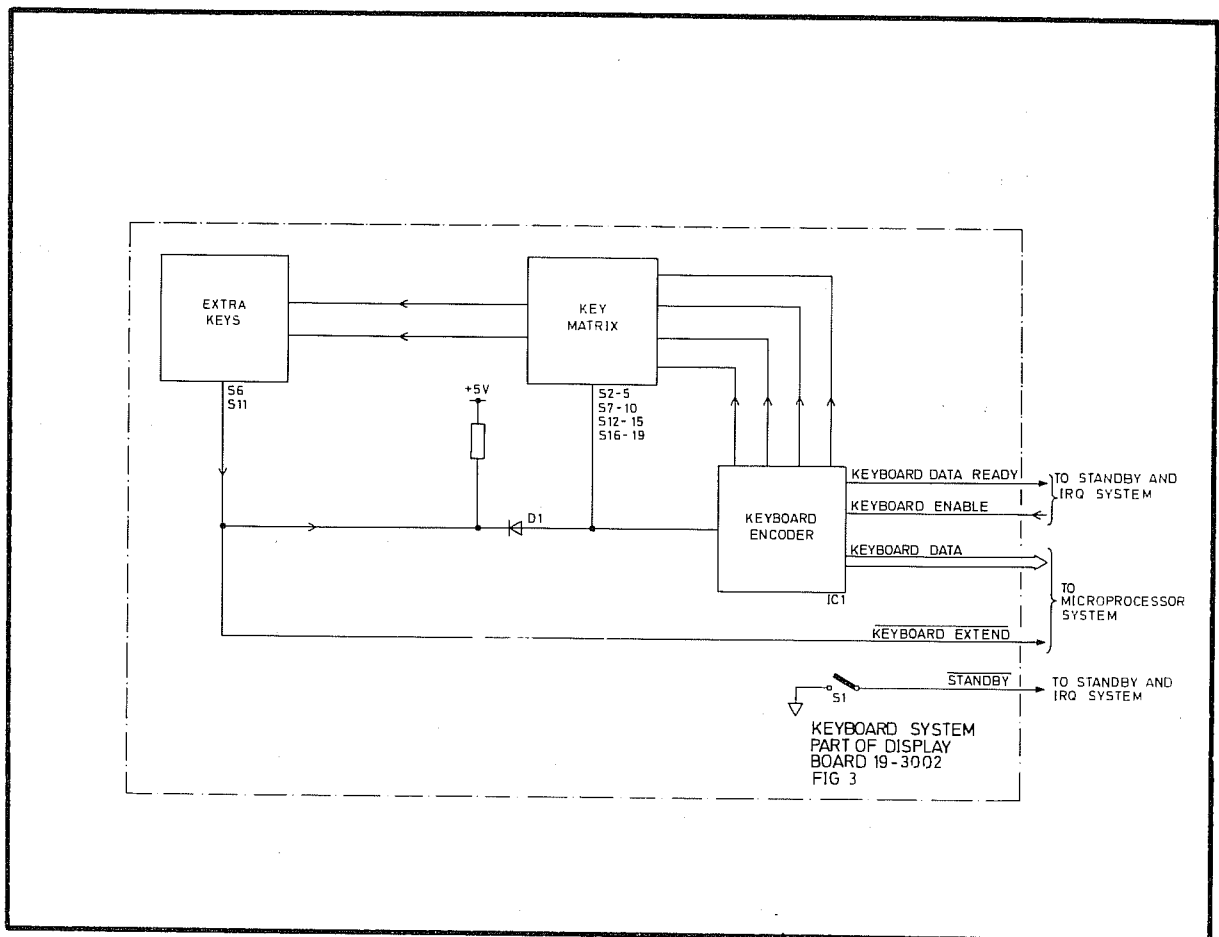

Fig. 6.6 The Keyboard System
- 46 A block diagram of the system is given in Fig 6.6. The encoding of the keyboard data is performed within the system without microprocessor action. An interrupt request (IRQ) is made to the microprocessor when encoding is complete. Data transfer is initiated by the KEYBOARD ENABLE signal from the microprocessor.